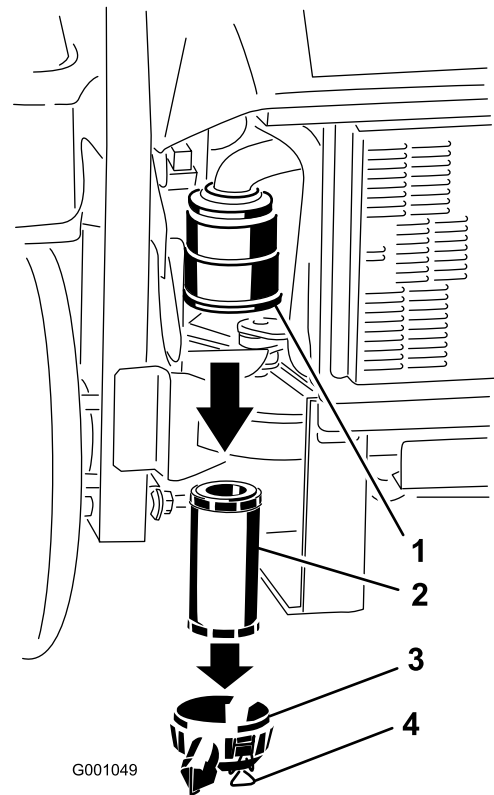

Figure 30
3. Release the latches on the air cleaner and pull the air cleaner cover off of the air cleaner body (Figure 30).
5. Gently slide the filter out of the air cleaner body (Figure 30). Avoid knocking the filter into the side of the body.